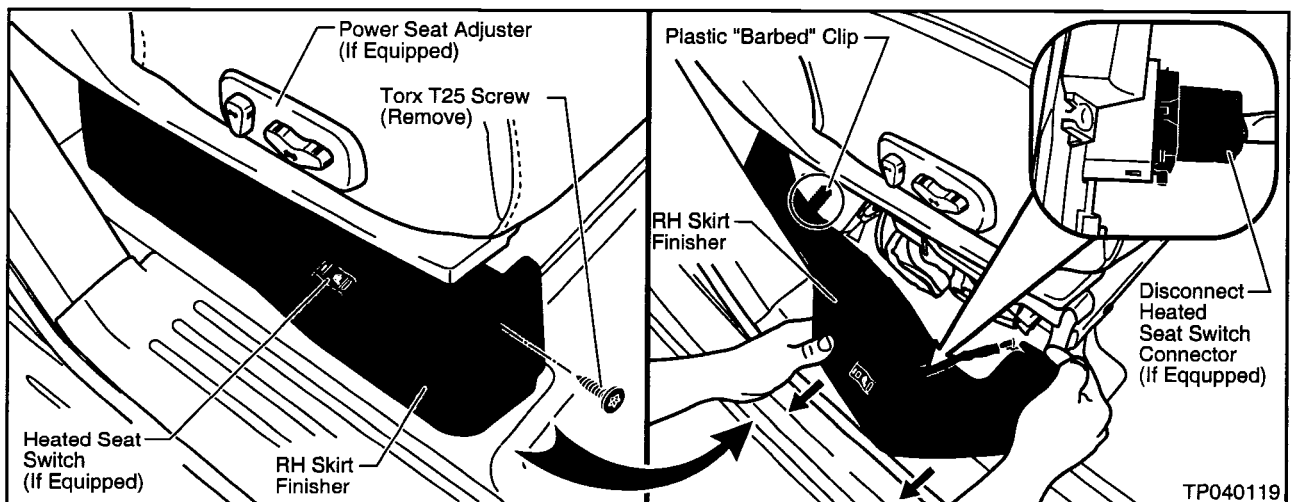

Figure 4
a. Use a Torx T25 to remove the Screw at the front end of the Finisher (see Figure 4).
b. Carefully pull out (towards the outside of the vehicle) on the Finisher to release any securing clips (see Figure 4).
c. If equipped, disconnect the Heated Seat Switch Harness Connector (see Figure 4).